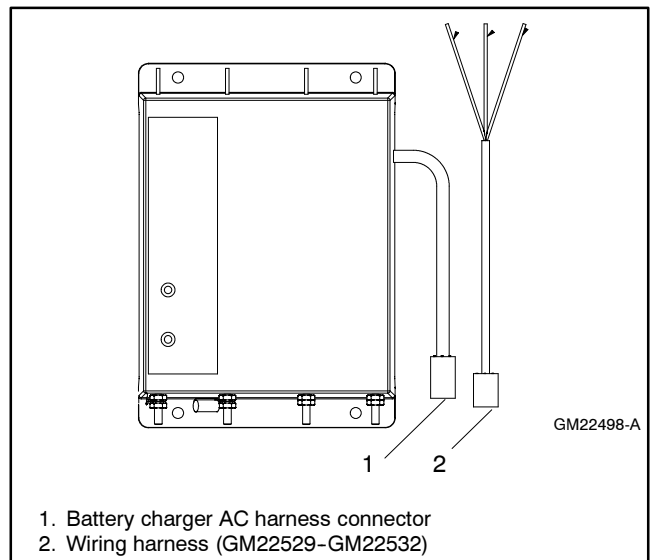

Figure 4 Battery Charger AC Connector and Wiring Harness
- 3.1 Connect the mating ends of the battery charger AC harness connector to the wiring harness (GM22529-GM22532). See Figure 4.